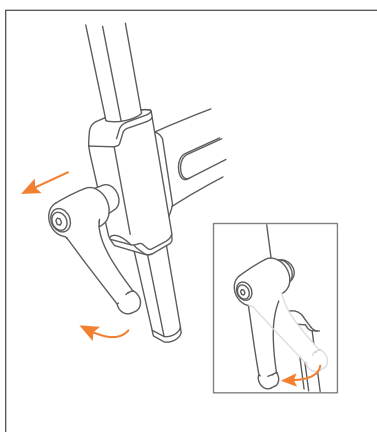

Figure 17: Set the adjustment handle in the right position.
- e.** Place the adjustment handles vertically so that they point straight down. You do this by gently pulling the adjustment handle outwards and turning it to the correct position (**Figure 17**).